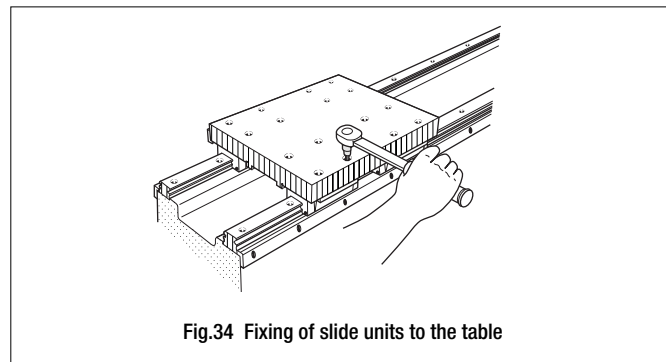

Fig.34 Fixing of slide units to the table
- Move the table by hand to ensure smooth movement, then fix the Linear Way II slide units to the table with mounting bolts. (See Fig. 34.)